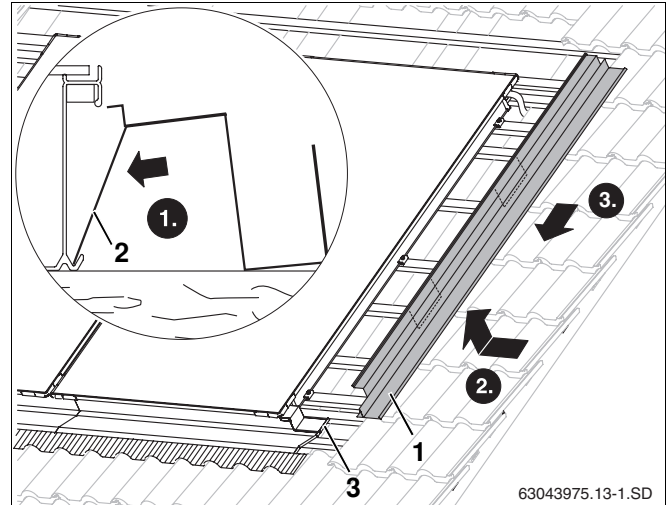

Fig. 47 Fitting the side facing collector on the right
- Place the mounting plates (Fig. 47, **Item 2**) into the lower edge of the collector.
- Place the edge of the right and left side facing collectors (Fig. 47, **Item 1**) up into the recessed grip on the collector and push in over the lower facing collector.
- Press the fold overlap on both collectors together to fix in place (Fig. 47, **Item 3**).